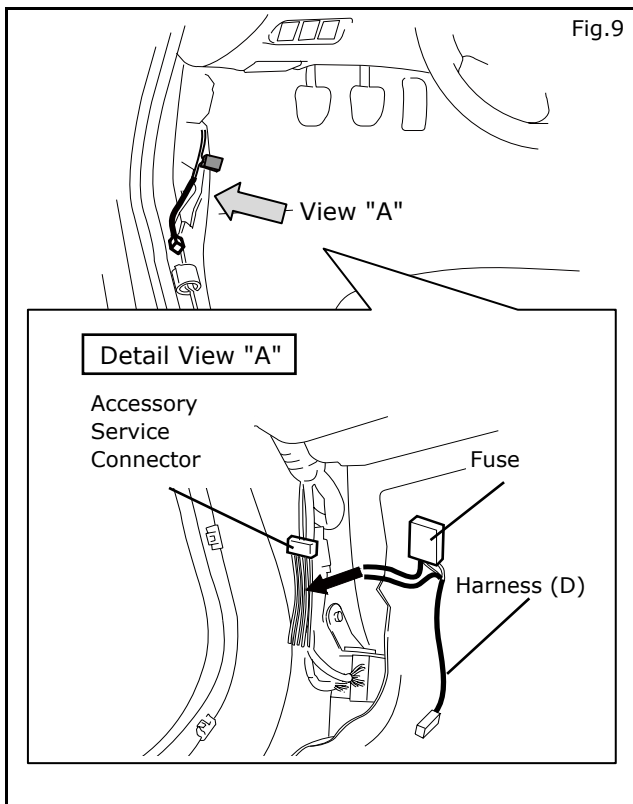

Fig.9
2) Locate the Driver side "Accessory Service Connector (Part No. 999Q9-AY000)" as shown in Fig.9.